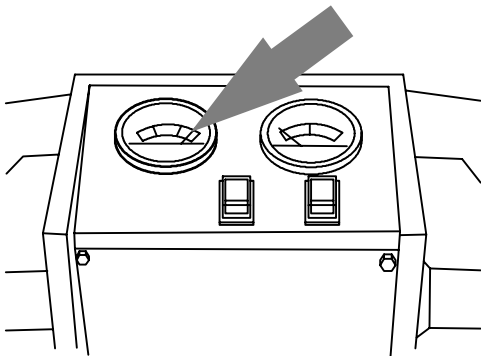

FIG. 33
8. Observe battery discharge indicator. When needle drops to the red zone, stop scrubbing and recharge batteries (Figure 33).